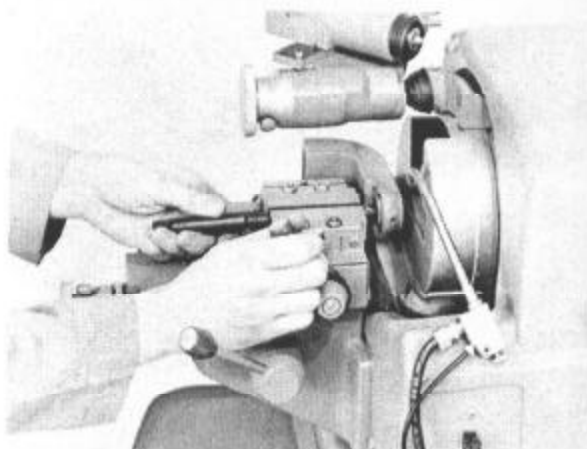

Figure 4.
6. Loosely clamp the drill between the vise jaws. Push the drill into the radial locator bushing and rotate it clockwise until the lips contact the locator stops. Lock the vise jaws with the clamping lever. (See Figure 4.)